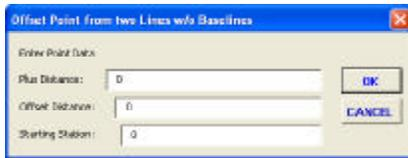

Figure 20
6. Enter in the indicated data fields of Figure 20.